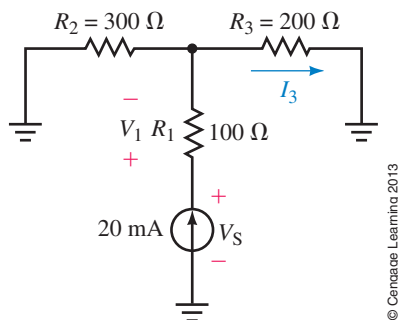

FIGURE 8–66
- Refer to the circuit of Figure 8–66: